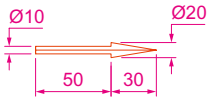

Fig. 14.14 Third example – a **3D Polar Array** – the 3D model to be arrayed
1. Working on a layer of colour **red**, construct a solid of revolution in the form of an arrow to the dimensions as shown in Fig. 14.14.